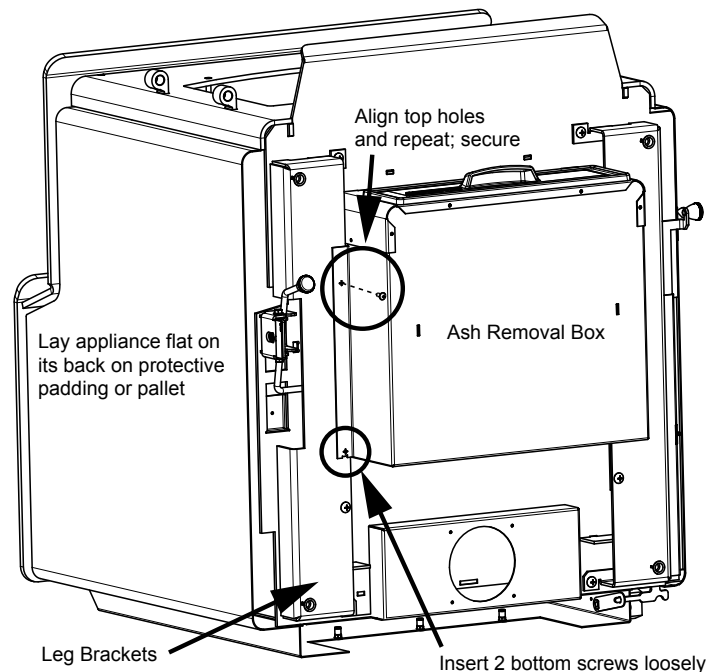

Figure 18.3
- Start bottom two bolts through ash drawer, leg mount and into the bottom of the appliance (Figure 18.3).